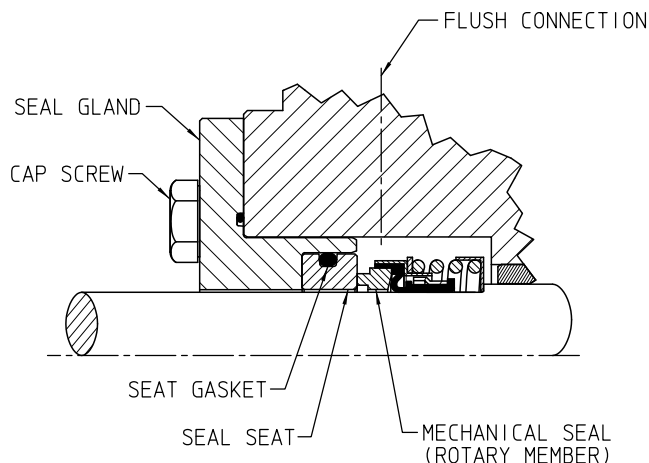

FIGURE 13
2. Elastomeric Bellows Type 52, 8-1 (**Figure 13**)